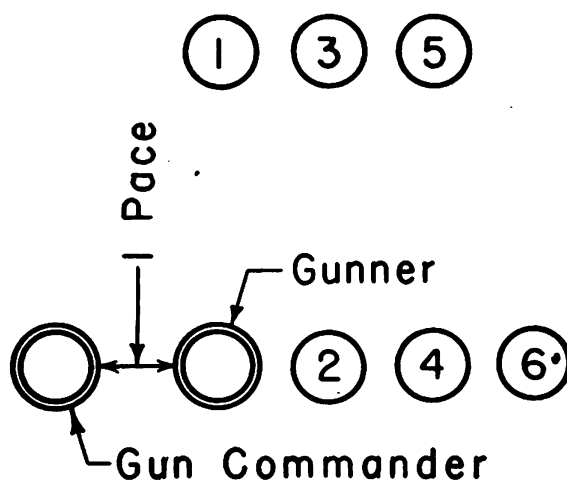

FIGURE 8.—Formation of 37-mm gun section.
Q. What is the formation for the 37-mm gun section? *A.* See figure 8.